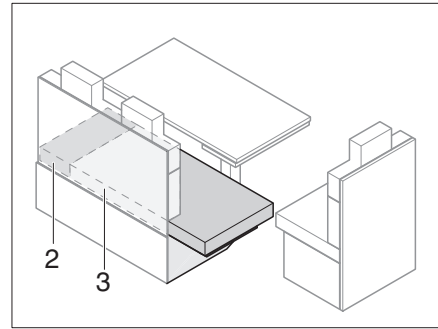

Fig. 149 After extending
- Pull the seat cushions (Fig. 149,3) onto the bench seat extension.
- Lay the additional cushions (Fig. 149,2) between the seat cushions (Fig. 149,3) and the exterior wall.
- Remove the additional cushion (Fig. 149,2).
- Pull the seat cushions (Fig. 149,3) onto the bench seat..